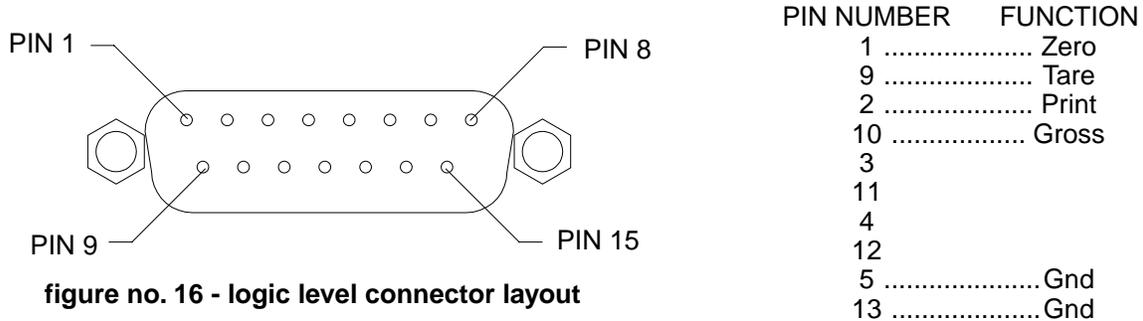

figure no. 16 - logic level connector layout
Included with the I/O option are eight (8) programmable inputs that may be used to remotely (up to 100 feet) initiate various functions within the 748. These inputs are accessed via the 15-pin "D" series connector on the back of the instrument enclosure. Four (4) of the inputs are defined while the remaining four (4) are available for special applications and will vary from application to application. Of the four (4) that are defined, one is for Zero, another is for Tare, the third is for Print, and the fourth is for Gross. Figure no. 16 illustrates the layout of this connector and identifies the inputs for Zero, Tare, Print and Gross. Remember that the input must be connected to Gnd to initiate the function.